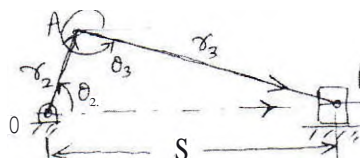

Fig.Q5(a)
- 5 a. For the slider crank mechanism shown in Fig.Q5(a), write (i) loop closure equation (ii) differentiate loop closure equation with respect to time to get velocity equation (iii) differentiate velocity equation with respect to time to get acceleration equation.
- b. In Fig.Q5(a), if $r_2 = 100\text{mm}$, $r_3 = 350\text{mm}$, $\theta_0 = 60^\circ$, find angular velocity and angular acceleration of connecting rod if crank rotates uniformly at 600 rpm in CCW direction. (12 Marks)